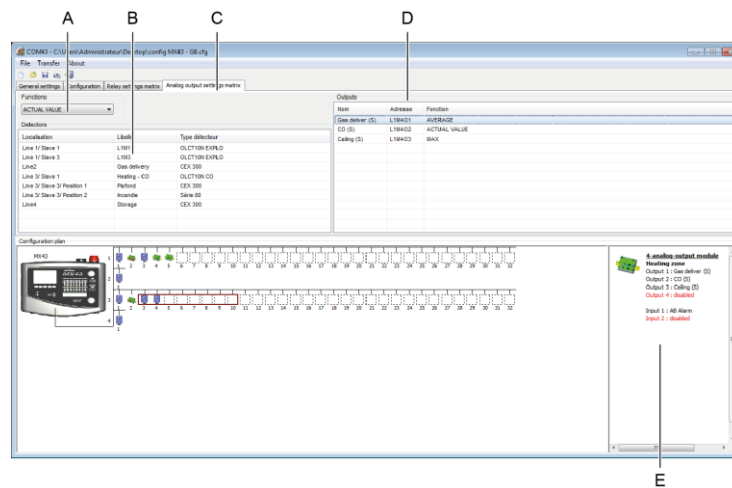

Figure 42: The information displayed in the *Analog output settings matrix* tab
1. Having selected the *Analog output settings matrix* tab (Figure 42, C), choose from the drop-down list (Figure 42, A) the mathematical function to be used (*Min*, *Max*, *Average* or *Actual value*).
2. Using the mouse, and the CTRL or Shift keys if required, select one or more detectors (Figure 42, B) and then drag them to the target 4-20 mA output (Figure 42, D). The mathematical function used is updated (Figure 42, D, *Function* column).
3. To access the configuration of an analog output, double-click the corresponding output (Figure 42, D).